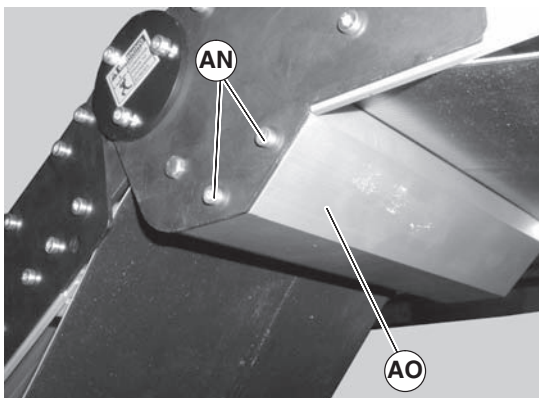

Figure 29
4. Install knuckle guard (Figure 29, item AO) with screws (AN) on both sides of knuckle. Tighten screws to 25 in-lbs (3 N-m).